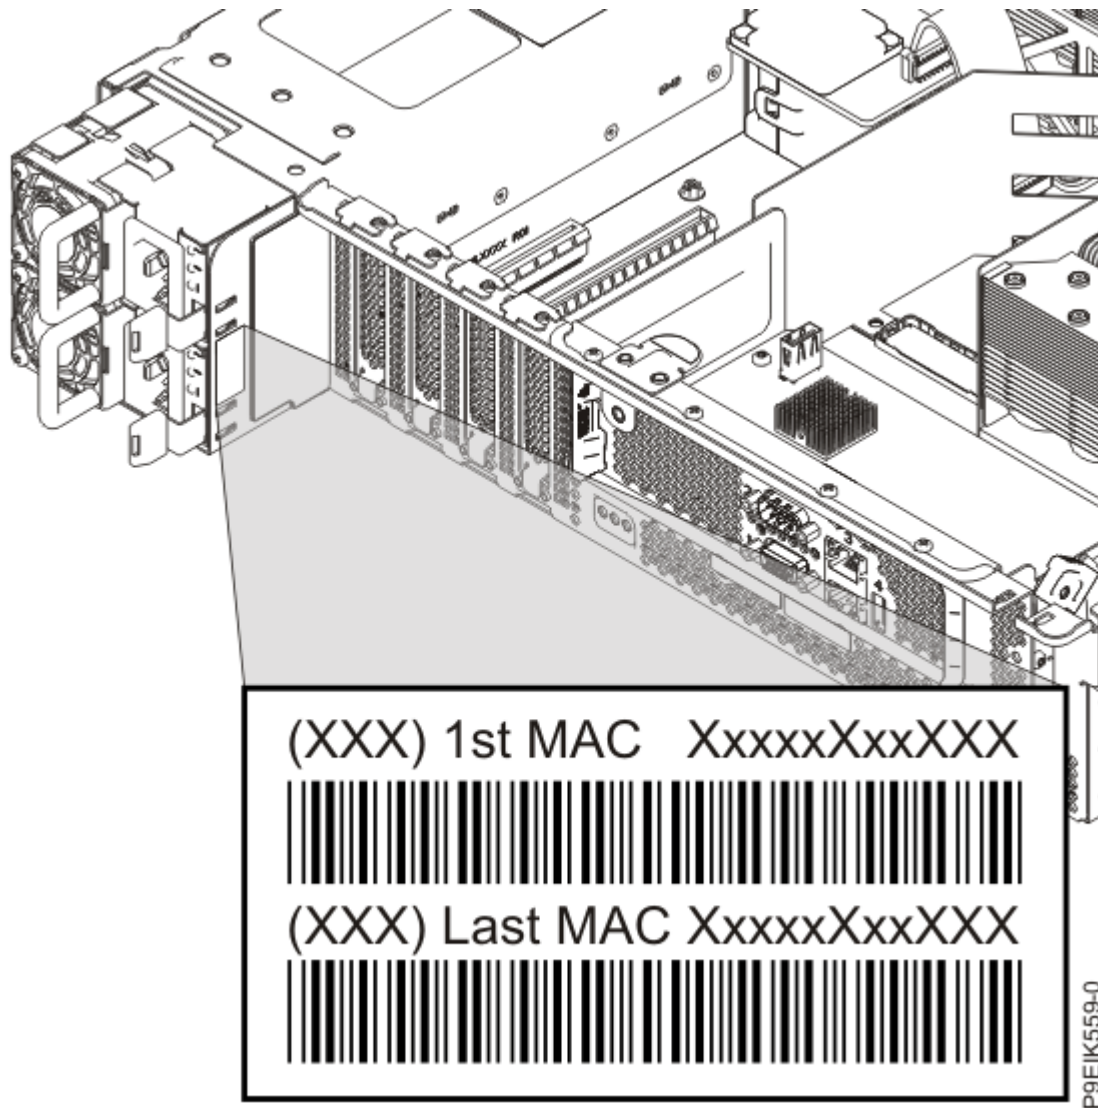

Figure 4. Applying the new MAC address label
8. Apply the new MAC address label over the previous label, on the power supply housing of the chassis, as shown in Figure 4 on page 6.